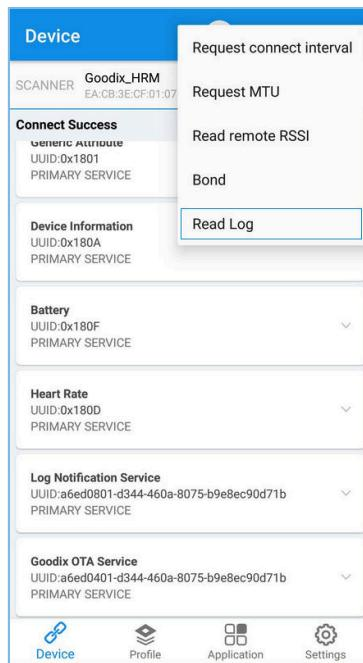

Figure 3-4 To read device logs
2. Tap in the upper-right corner, and choose **Read Log**, as shown in Figure 3-4.